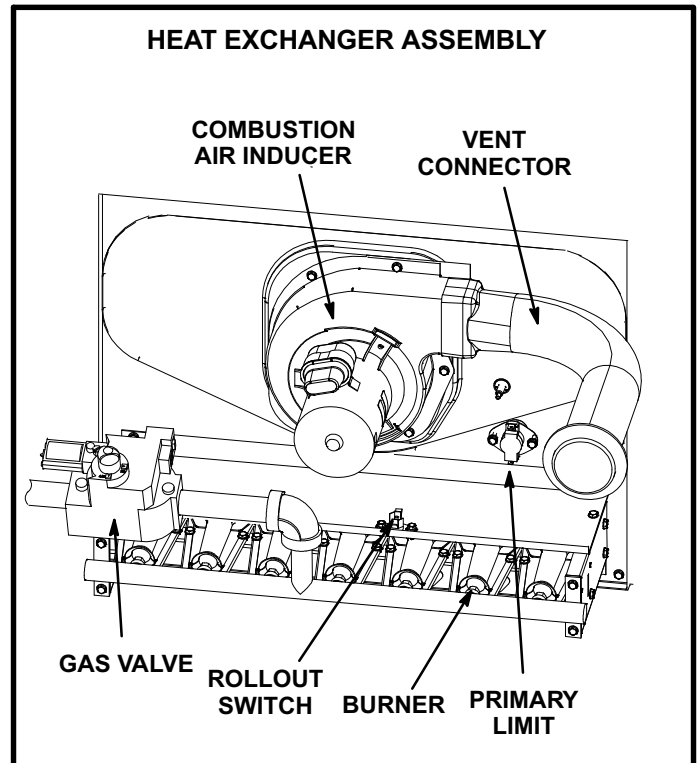

FIGURE 22
- 3- Remove and retain screws securing combustion air inducer to flue box. Remove and retain two screws from bracket supporting vent connector. See figure 22.